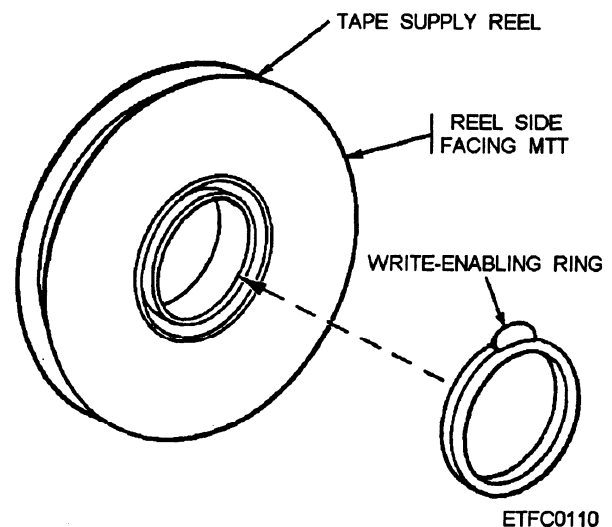

Figure 9-15.—A write-enabling ring.
**MTU WRITE PROTECTION.** —Protection of master tapes is provided by the use of a Write-enabling ring and sensing circuitry in the MTTs. Only tapes with a write-enabling ring installed, as shown in figure 9-15, may be used in the write operation. Tapes without a write-enabling ring are protected from the write operation.